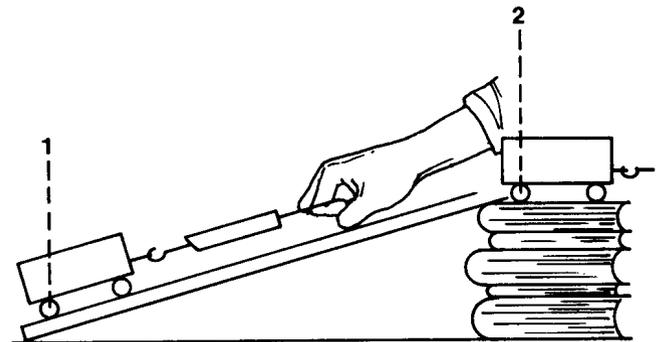

Figure 6-25
2. Place the board so that one end rests on the table and the other end on the same pile of books used in Procedure 1. Using the spring scale, move the cart up the board at a *constant speed* to the top of the pile of books (Fig. 6-25).